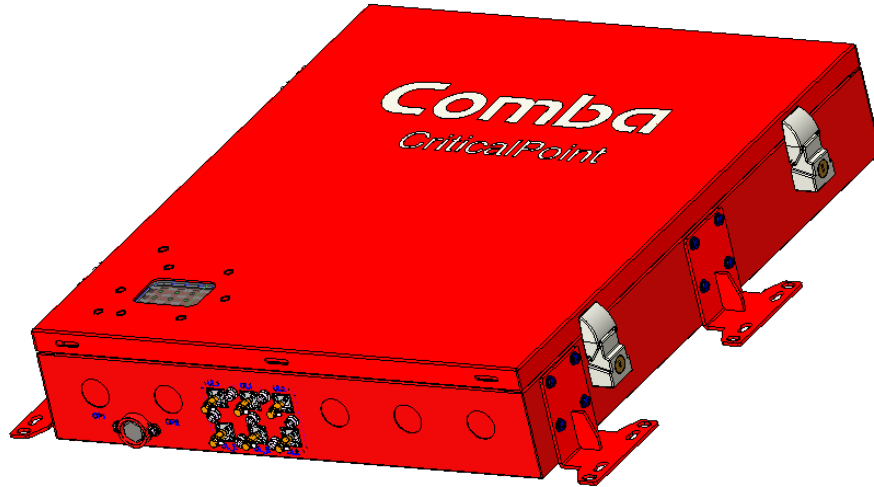

Figure 17: The mounting hangers of Expansion Unit
- Remove the two mounting hangers from the Expansion Unit, adjust the direction according to Figure 9, and install it on the Expansion Unit. At the same time, install the remaining two mounting hangers attached in packing box on the Expansion Unit, as shown in Figure 17;